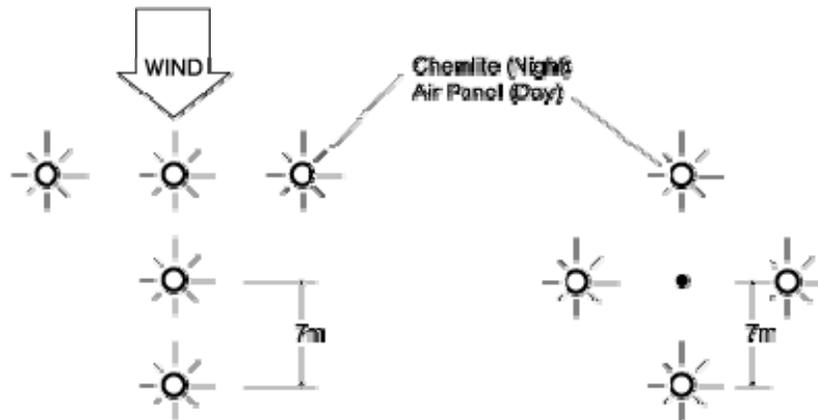

Figure 9-5. Primary Landing Point **Wind 'T'** and Secondary Landing Point **Cross**.
b. Near. *See Figure 9-5.*
- (1) Infrared: IR Chemlite Wind 'T.' The 'T' is the landing point of the first helicopter. Helicopter lands nose into the wind, so that the 'T' is readable. Additional landing points can be marked with a cross. Note distance between chemlites.
- (2) Visible Light: Chemlite Wind 'T.'
(3) Visible: Smoke, which is visible to pilots with NVGs, CAN be used on clear nights.